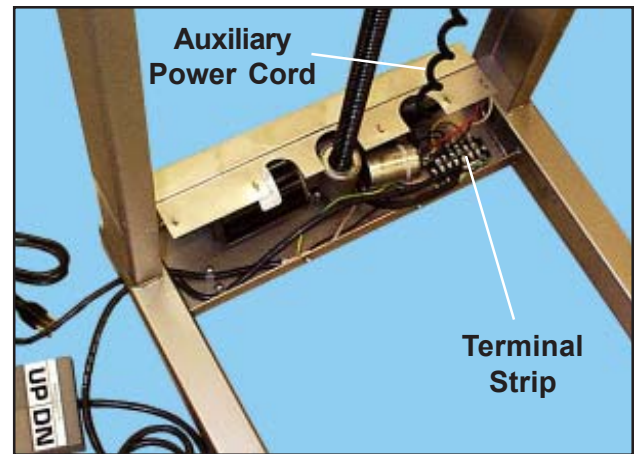

Figure 41. Auxiliary Power Cord and Terminal Strip
1. Attach the four wires to the new capacitor (Figure 41).